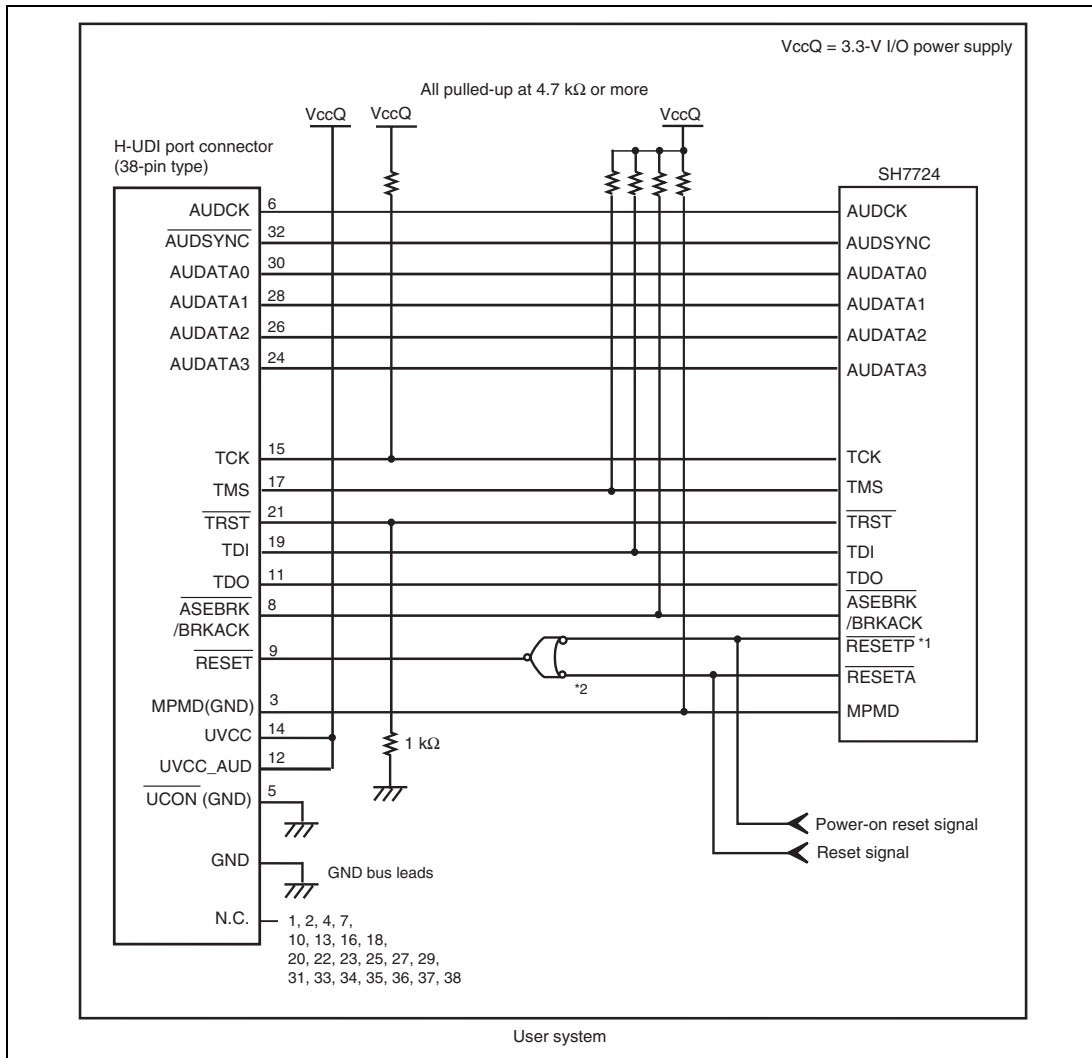

Figure 1.7 Recommended Circuit for Connection between the H-UDI Port Connector and MPU when the Emulator is in Use (38-Pin Type)
6. Connect RESETP# and RESETA# to the user system if required, as shown in figure 1.7.
Figure 1.7 shows a recommended circuit for connection between the H-UDI and AUD port connectors (38 pins) and the MPU when the emulator is in use.
- (1) When the emulator is used: $MPMD = 0$
- (2) When the emulator is not used: $MPMD = 1$Figure 1.7 shows an example of circuits that allow the MPMD pin to be GND (0) whenever the emulator is connected by using the user system interface cable. When the MPMD pin is changed by switches, etc., ground pin 3. Do not connect this pin to the MPMD pin.
7. The resistance values shown in figure 1.7 are for reference.
When the circuit is connected as shown in figure 1.7, the switches of the emulator are set as SW2 = 1 and SW3 = 1. For details, refer to section 3.8, Setting the DIP Switches, in the SuperH™ Family E10A-USB Emulator User's Manual.